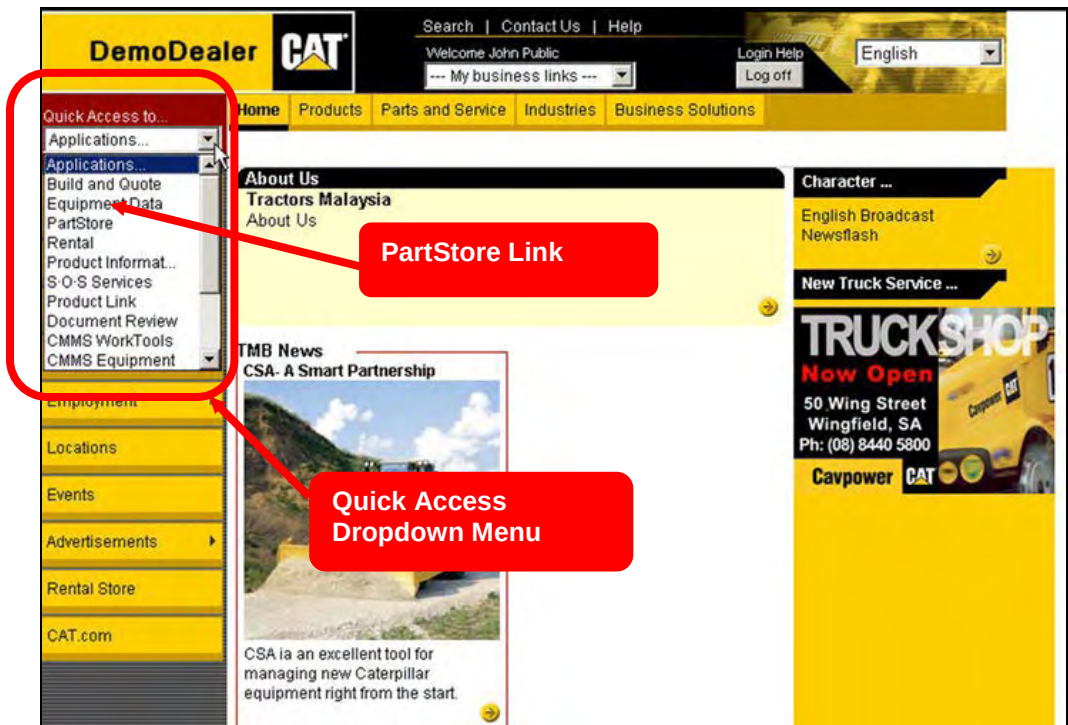

Figure 7 : Dealer StoreFront Quick Access Dropdown Menu
- The 'Quick Access' dropdown menu. (Figure 7)